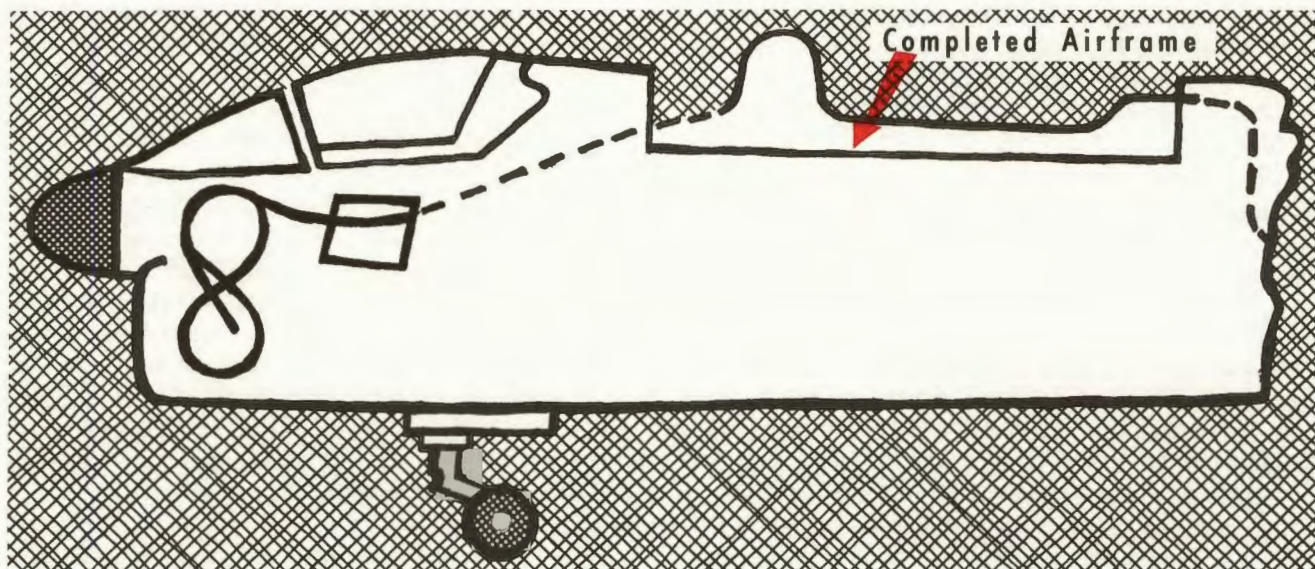

FIGURE 4
4. When installing the control in an airframe, uncoil the control in the plane of the "figure eight" and feed it through the airframe aft and/or forward, keeping the loops in a vertical plane as shown in Figure 4.